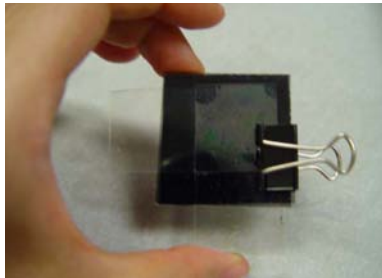

Figure 12: Attaching polarizers.
**Step (4)** Place your pixel between two polarizers, one of which should have the photoresistor setup attached. You should align the polarizers such that the pixel is by default in the "OFF" state. Secure the polarizers with a binder clip as shown in Figure 12.